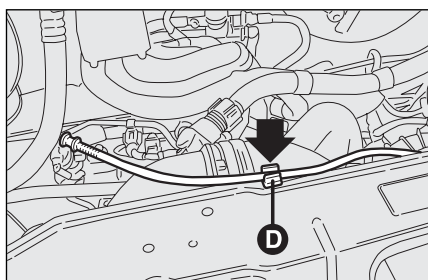
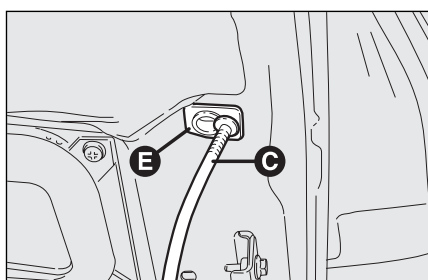

fig. 102
fig. 103
- ☐ lift the bonnet and at the same time release the rod **fig. 102** from the catch **D**, then fit the rod end **C-fig. 103** into the bonnet recess **E**.
- ☐ hold the bonnet up with one hand and with the other remove rod **C**-fig. 103 from recess **E** and fit it back into its catch **D**-fig. 102;